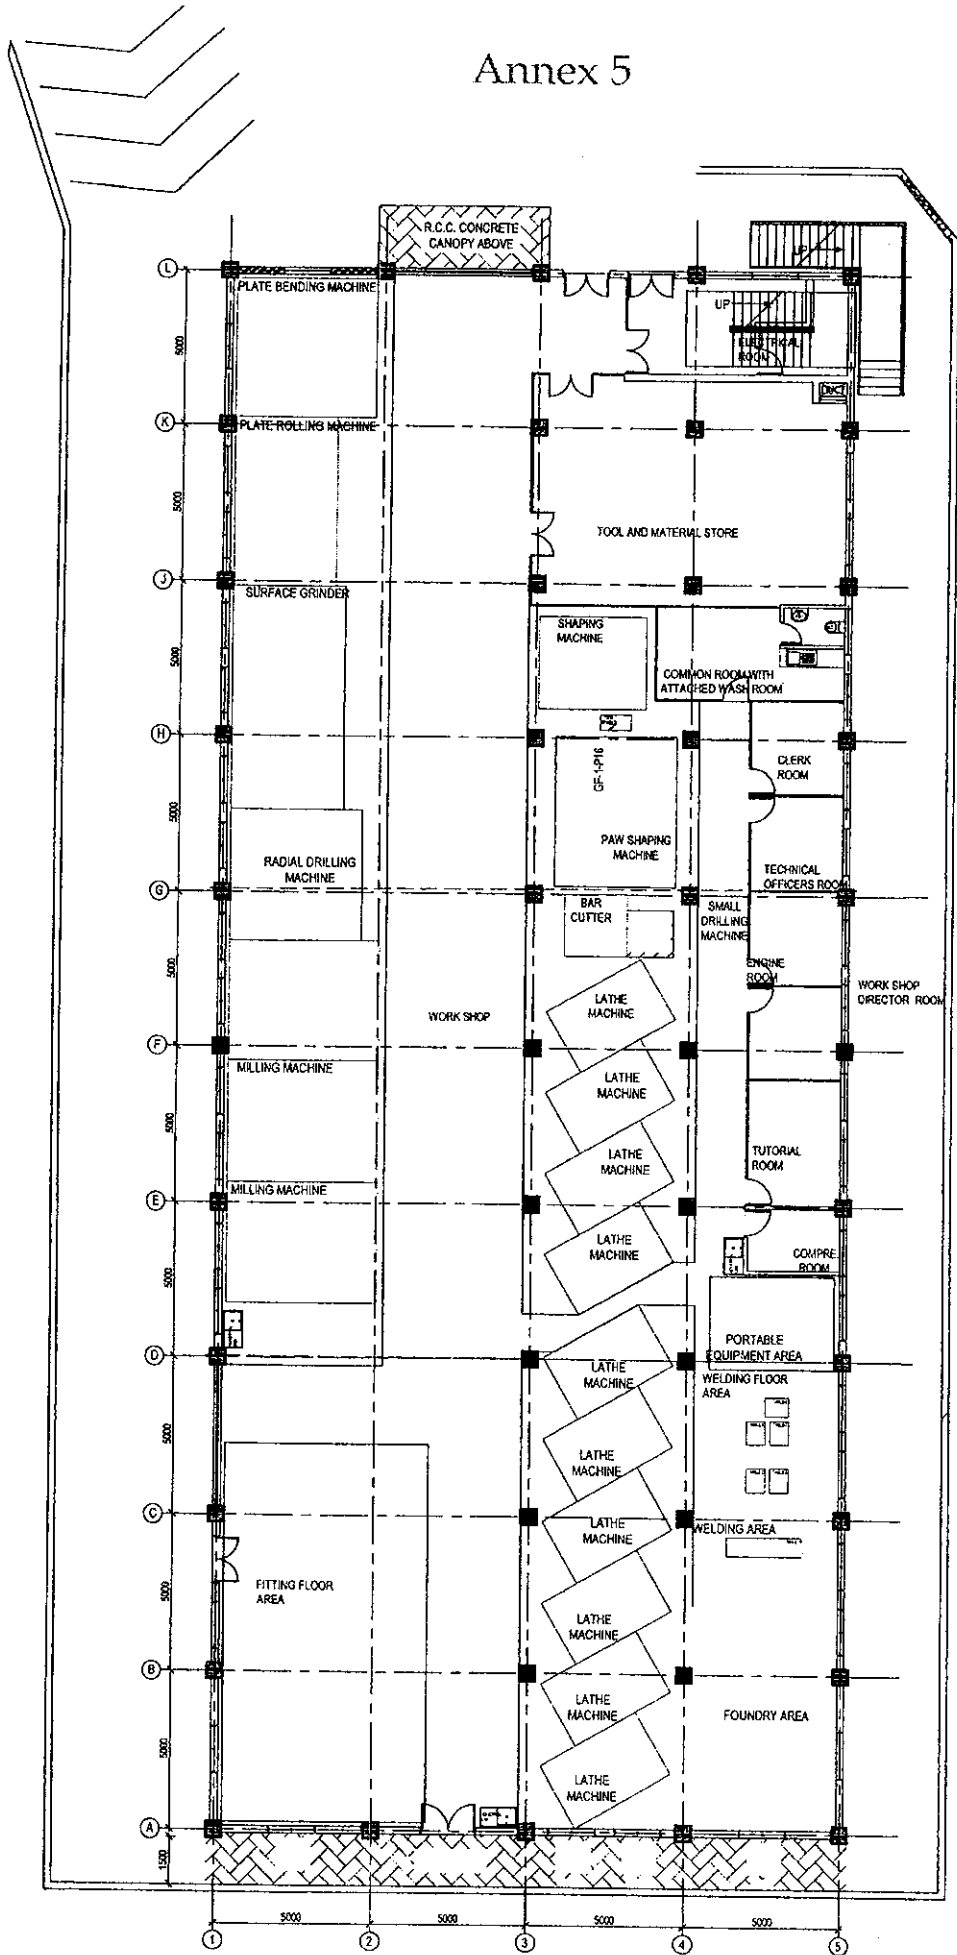

Figure Q5
- e) Figure Q5 in Annex 5 shows a layout drawing of a workshop. Take the covering radiuses of smoke detector and heat detector as 7.5 m and 5.3 m, respectively. Draw a suitable fire detection system for the workshop. Use Annex 5 to draw your design and attach it with your answer script. State any assumption you made.